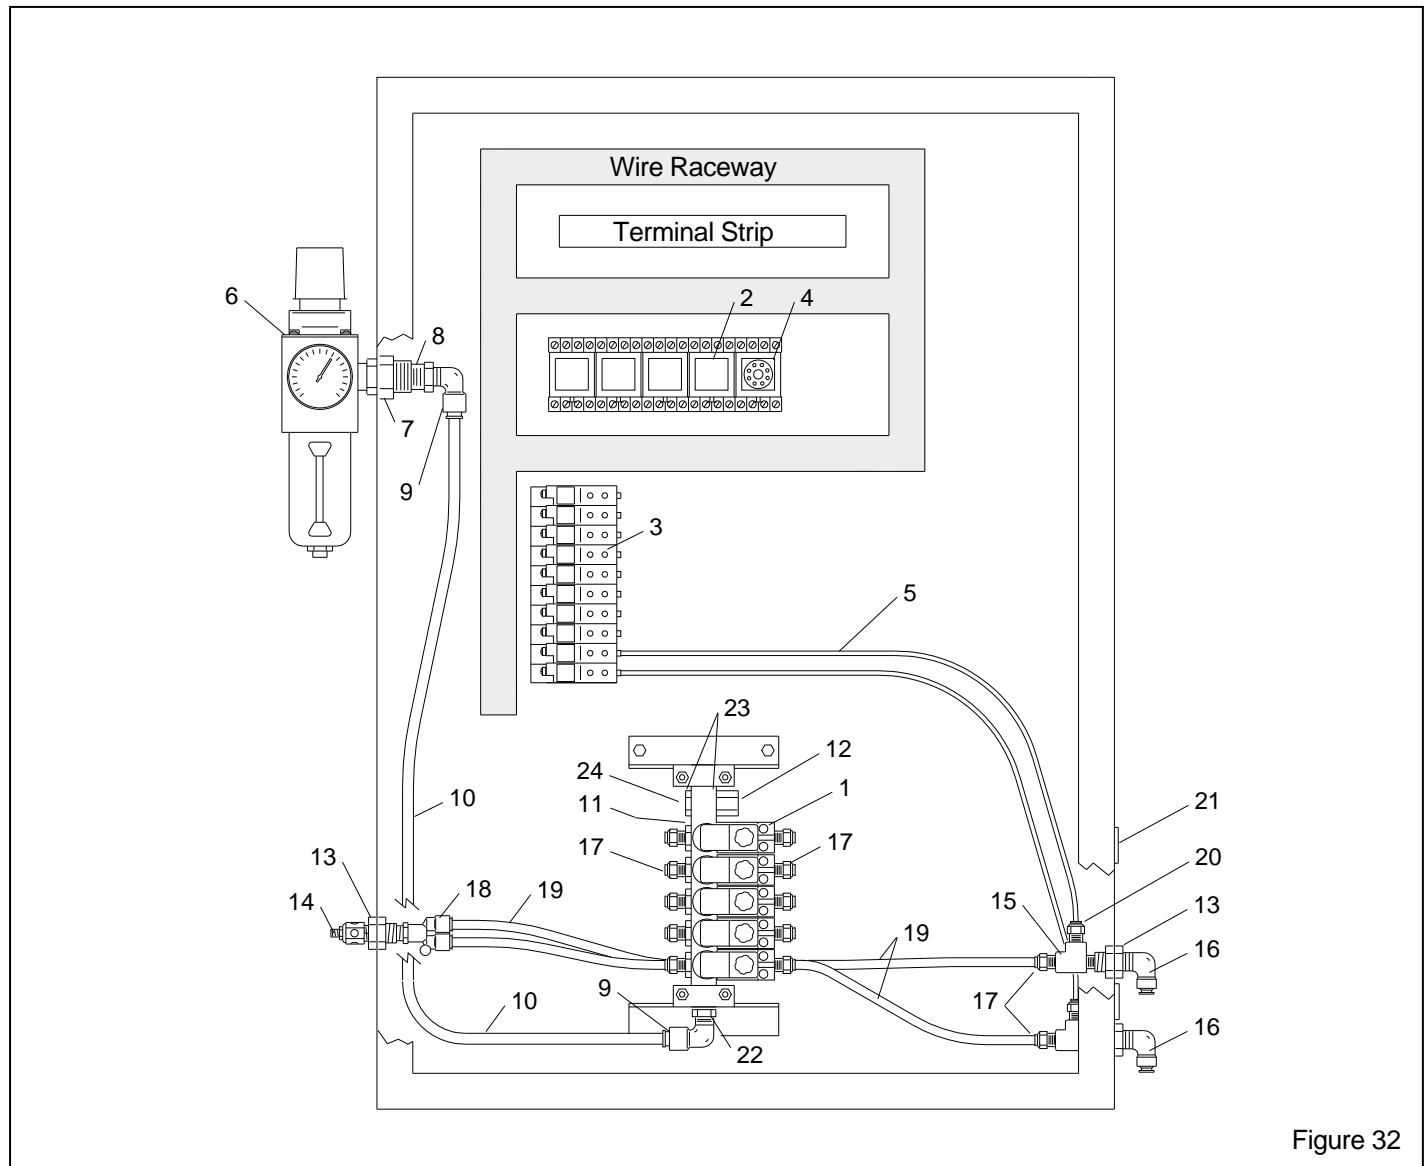

Figure 32
7.3 Cylinder Control Panel, Figure 32